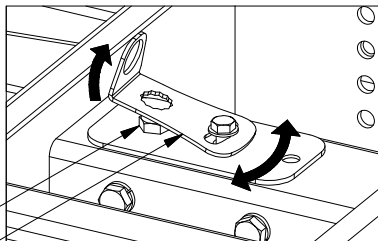

Figure C2: View of top of base.
6. **Secure base.** Secure the base to the truck bed by first tightening the eight 1/2" cap screws attaching the socket post into the center of the base to 80 ft-lbs. Second, tighten the 1/2" x 3" draw-down bolt to 60 ft-lbs. Lock the draw-down bolt in place by swiveling the locking bracket over the draw-down bolt, see Figure C2.